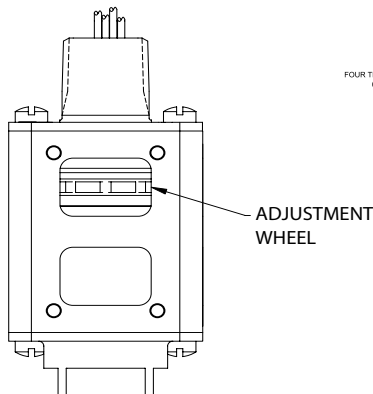

figure 2
4. With the aid of a screwdriver, turn adjustment wheel left (clockwise) to increase setting, or right (counter clock-wise) to decrease setting. (See figure 2).